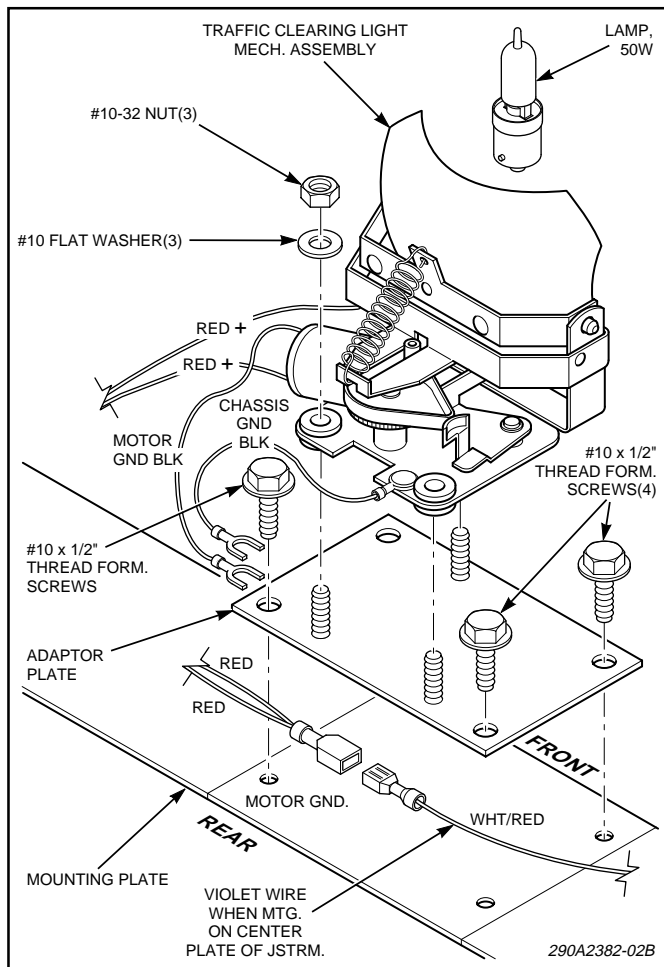

Figure 2.
4. If center mounting location (JSTRM only) is desired, place the adaptor plate (with PEM studs) in position and secure with two #10 hex head thd. frm. screws (supplied) as shown in figure 2.
6. Place the traffic clearing light assembly on the adaptor plate and secure with three #10-32 hex nuts and #10 flat washers (all supplied) as shown in figure 2.
7. Properly ground both black wires from the traffic clearing light mechanism as shown in figure 2.